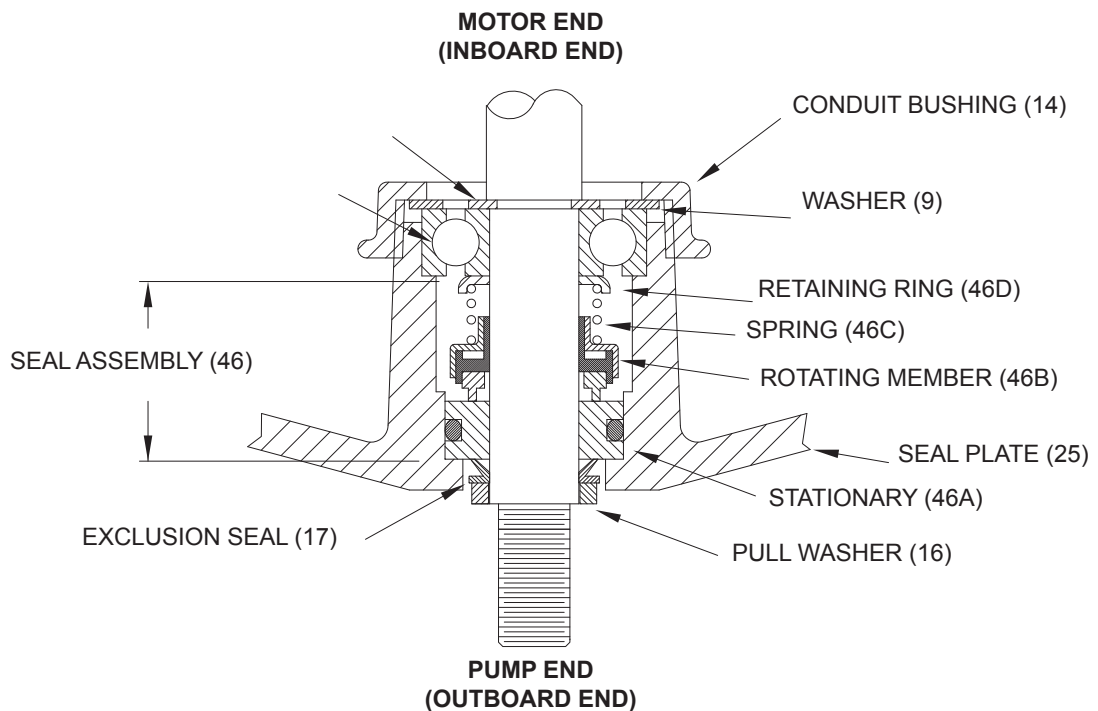

FIGURE 3
Seal - Remove rotating member (46a), spring (46c) and retaining ring (46d) from shaft. (see Figure 3). Examine all seal parts and especially contact faces. Inspect seal for signs of wear such as uneven wear pattern on stationary members, chips and scratches on either seal face. **DO NOT** interchange seal components, replace the entire shaft seal (46). If replacing seal, remove stationary (46a) from seal plate (25) by prying out with flat screwdriver.